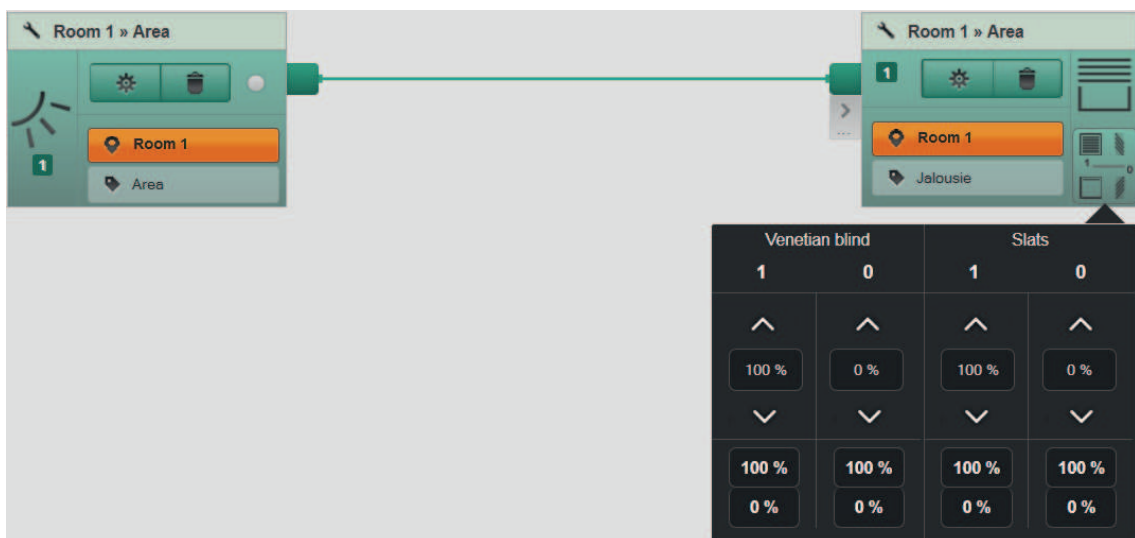

Figure 60: Assigning the actuator values for recalling and removing the threshold value scene - example sun protection
- Set the actuator values for recalling and removing the scene. To do this, click the extension of the device tile of the actuator and set the values for Recall **1** and Remove **0** of the scene (Figure 60).